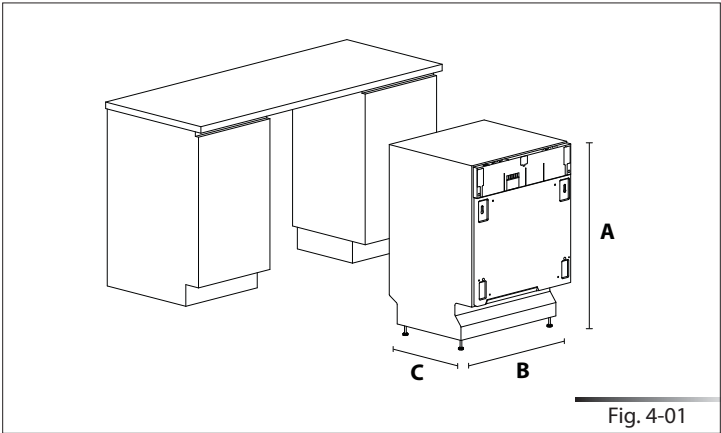

Fig. 4-01
The progressive number of each figure is shown in the bottom right-hand corner of the relative box. An example of a progressive number is "Fig. 4-01", where the first number (4) indicates the section to which the figure belongs, while the second number (01) indicates the progressive number of the figure in section 4 (Fig. 4-01 is the first figure in section 4). The tables are numbered in the same way, bearing in mind that "Tab." is used instead of "Fig." (e.g.: Tab. 4-01 is the first table in section 4). If a table occupies more than one page, a letter is added after the progressive number (e.g.: "Tab. 4-01a", Tab. 4-01b").
4 DIMENSIONS OF DISHWASHER (See fig. 4-01)